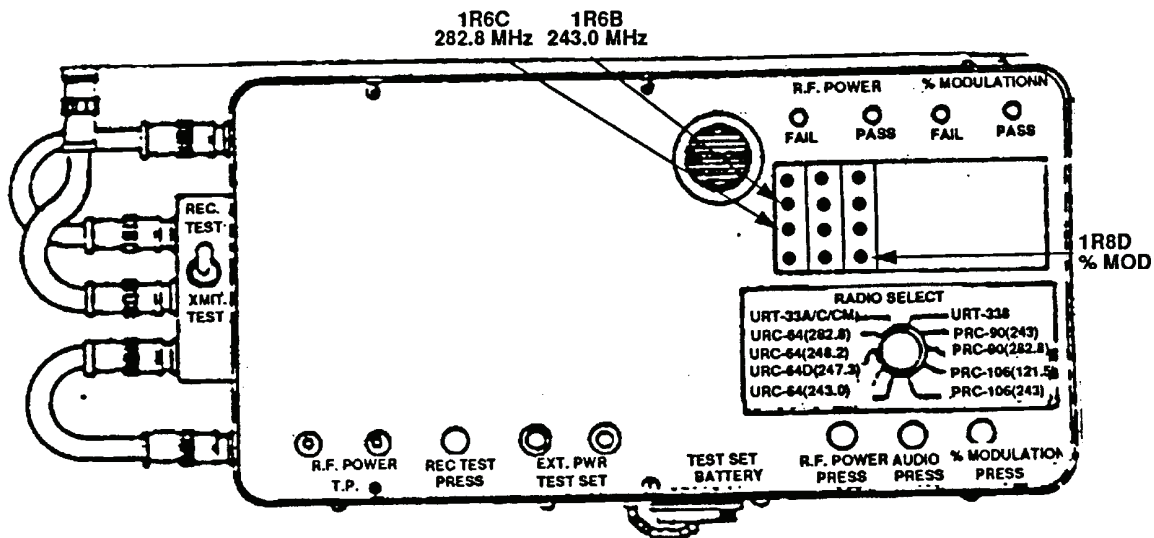

Figure 4. RF power and modulation percentage threshold adjustment.
(1) Press and hold **RF POWER PRESS** button and adjust 1R6B 243.0 MHz (fig. 4) until both **PASS** and **FAIL** indicators blink randomly.
(2) Press and hold **RF POWER PRESS** button and adjust 1R6C 282.8 MHz (fig. 4) until both **PASS** and **FAIL** indicators blink randomly.
- (2) Press signal generator **AM** key and select 70 percent modulation with signal generator controls.
- (3) Press and hold % **MODULATION PRESS** button. After 3 seconds, the % **MODULATION** red **FAIL** and green **PASS** indicators will blink randomly; if not, perform **b** below.
- (4) Press signal generator **AM** key and select 80 percent modulation with the signal generator controls.
- (5) Press and hold % **MODULATION PRESS** button. After 3 seconds, the % **MODULATION** green **PASS** indicator must be illuminated and the red **FAIL** indicator must be off; if not, repeat (2) and (3) above.
- (6) Press signal generator **AM** key and select 60 percent modulation with signal generator controls.
- (7) Press and hold % **MODULATION PRESS** button. After 3 seconds, the % **MODULATION** red **FAIL** indicator must be illuminated and the green **PASS** indicator must be off; if not, repeat (2) and (3) above.
- (8) Reinstall TI cover plate.
- (9) Disconnect signal generator from TI.
b. Adjustments. Adjust 1R8D % MOD (fig. 4) so both the % **MODULATION** red **FAIL** and green **PASS** indicators blink randomly (threshold point).